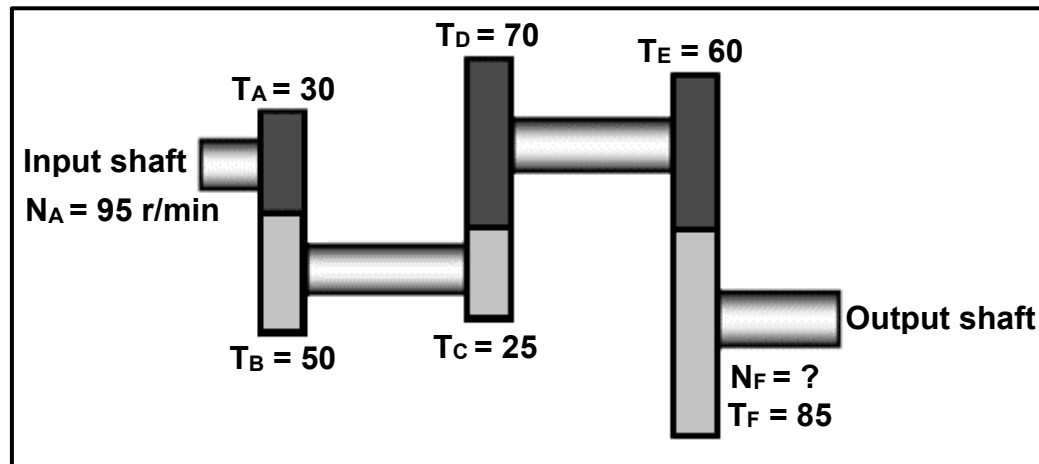

FIGURE 11.5
11.5 FIGURE 11.5 below shows a gear drive system in a gearbox.